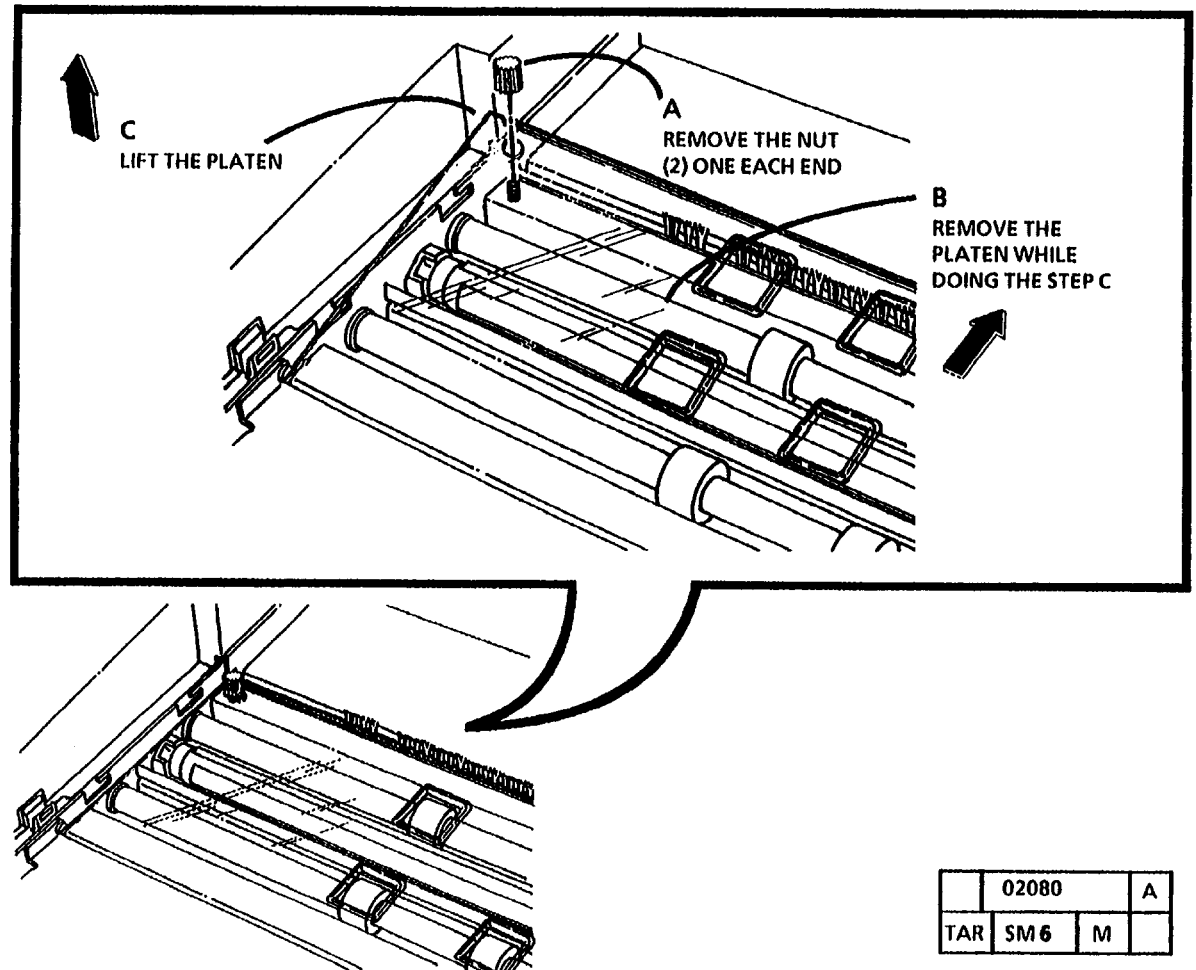

Figure 33. Remove the Platen
2. (Figure 33): Remove the platen.